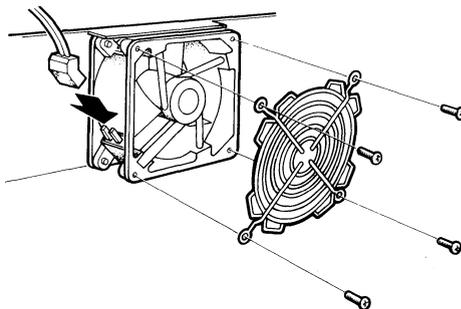

Figure 6-28 Connect the Front Fan Power Cable and Fan Guard
1. Remove the power cable and fan guard (if present) from the intake side of the old fan and fit them to the replacement fan (Figure 6-28).
The front fan power cable is not keyed. Observe the polarity of the connector. The curve of the connector must match the curve of the fan housing as shown in Figure 6-28.